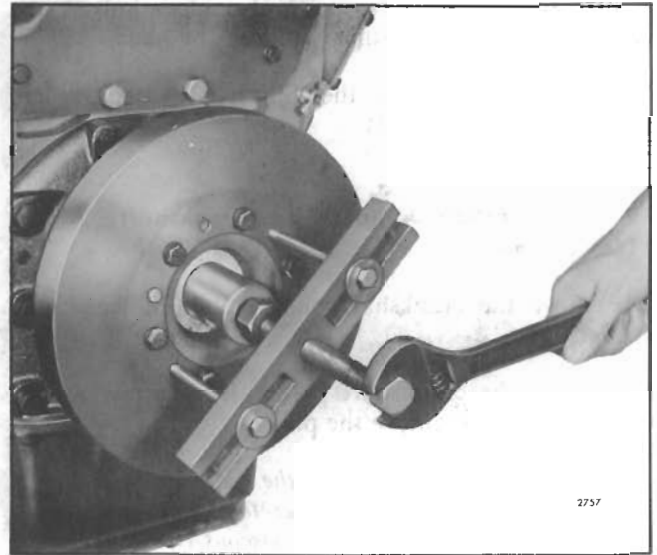

Fig. 2 - Removing Vibration Damper Outer Cone
4. Attach puller J 4558 to the vibration damper hub, as shown in Fig. 2, with two long bolts threaded into